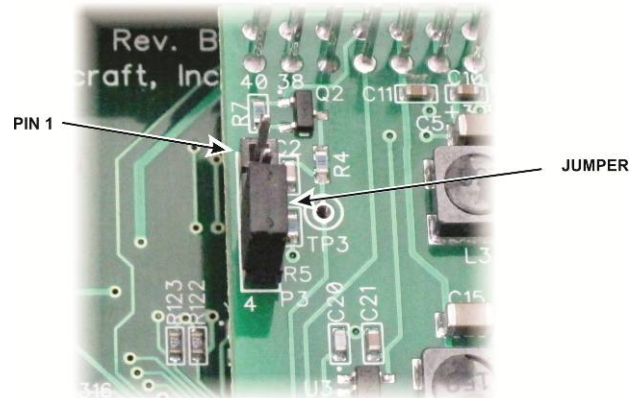

Figure 17. Power Control Jumper.
To configure the power control, loosen the four thumb screws and remove the PX3 bottom cover. The jumper is located near the edge of the Power Supply (PS) board as shown in Figure 17.
Pins 3 & 4: Normal operation of the **PWR** switch. The jumper is shown in this position in Figure 17.